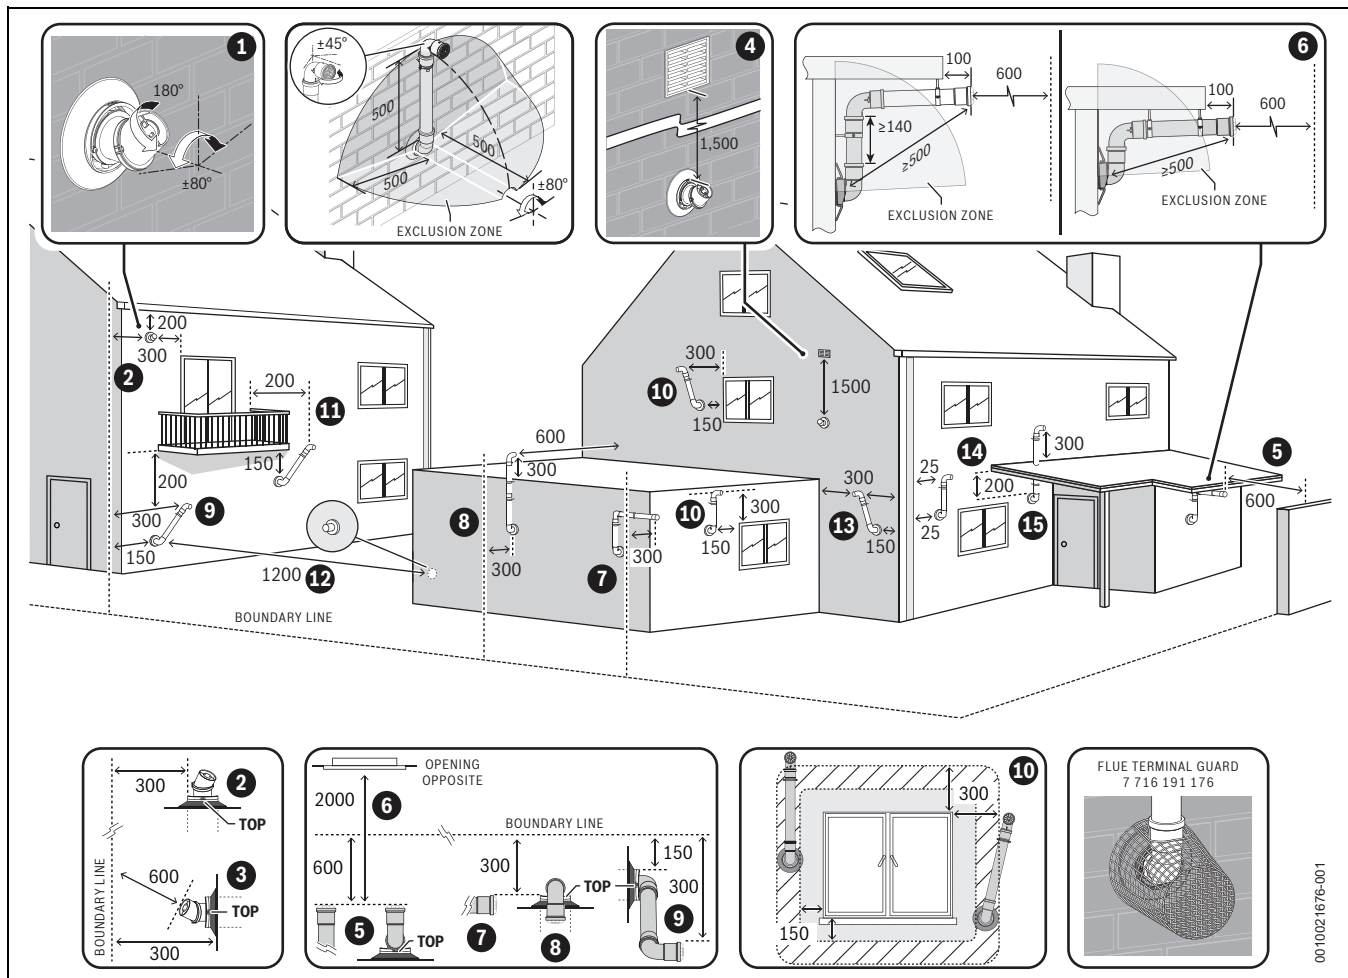

Fig. 32 Plume re-direct and plume management terminal positions
- ▶ Refer to “Horizontal flue terminal positions” for all concentric flue terminal positions unless the flue position is specified in figure 32 “Plume re-direct and plume management terminal positions”.
Key to figure 32